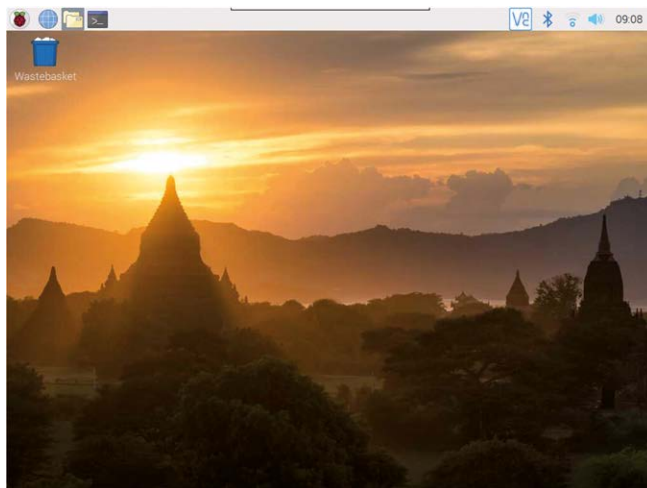

Figure 2.4 Raspberry Pi 4 desktop
- You should now be ready to use your Raspberry Pi 4 (see Desktop in Figure 2.4).